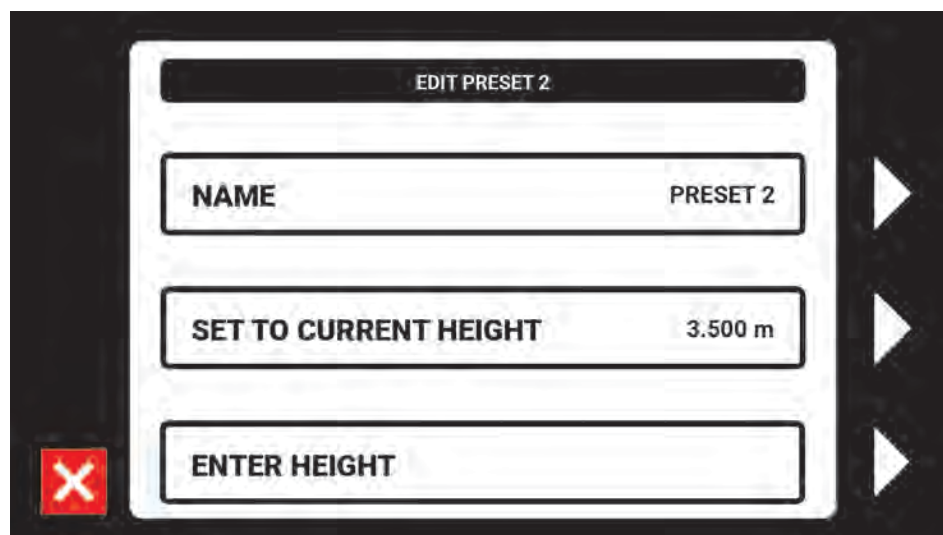

Figure 5-14 Preset Programming Screen (Preset 2 Shown)
2. To select a preset to edit, use the arrows or the scroll wheel to go to desired preset. Once selected, press the green check mark button to get to that preset’s Programming Screen (Figure 5-14).